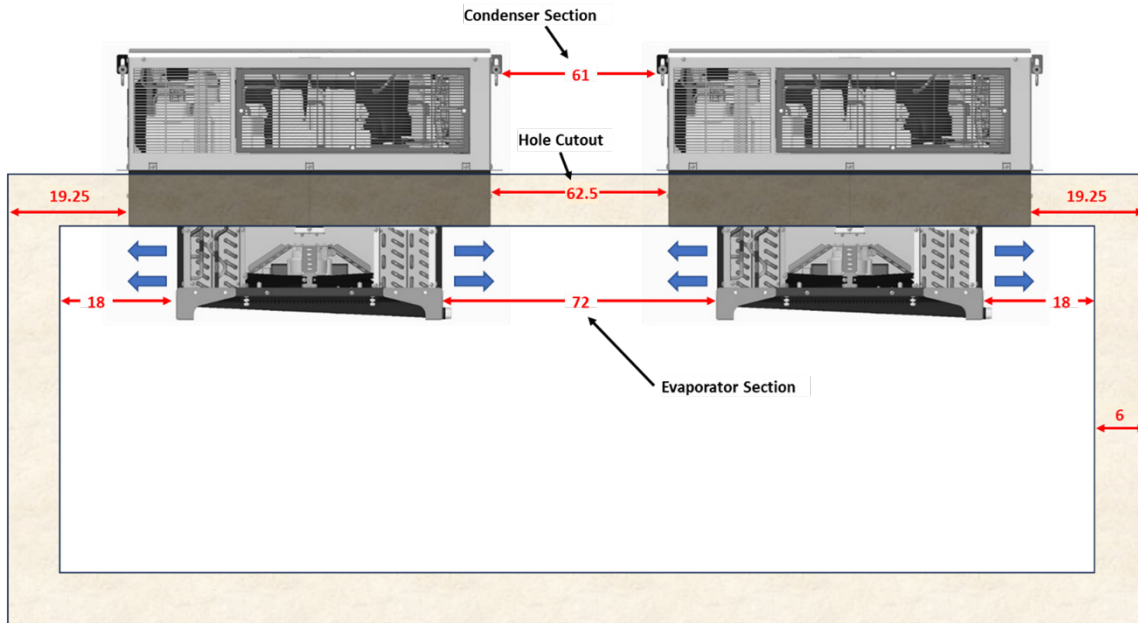

Figure 6 – Dimension Comparison
- Spacing of hole cutouts is different than the cold side spacing. See Figure 6.